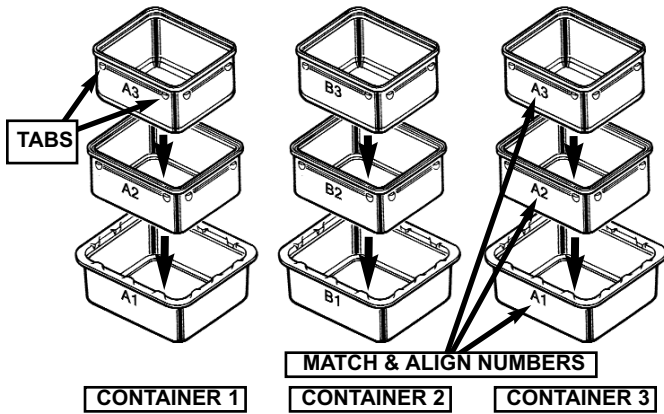

FIGURE 18
a. Match each container section with its corresponding sections (see Figure 18):
b. With the matched numbers aligned, insert the bottom section (A3, B3) of each container through the middle section (A2, B2), and the middle section through the top section (A1, A1), until the tabs around the top of each section lock the section in place. See Figure 18.